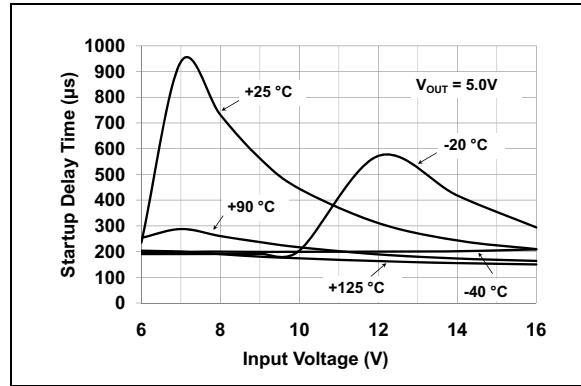

FIGURE 2-34: Start-up Delay From \overline{SHDN} to 90% V_{OUT} .
- Note 8:** See **Section 4.6 “Shutdown Input (SHDN)”** and **Figure 2-34**.